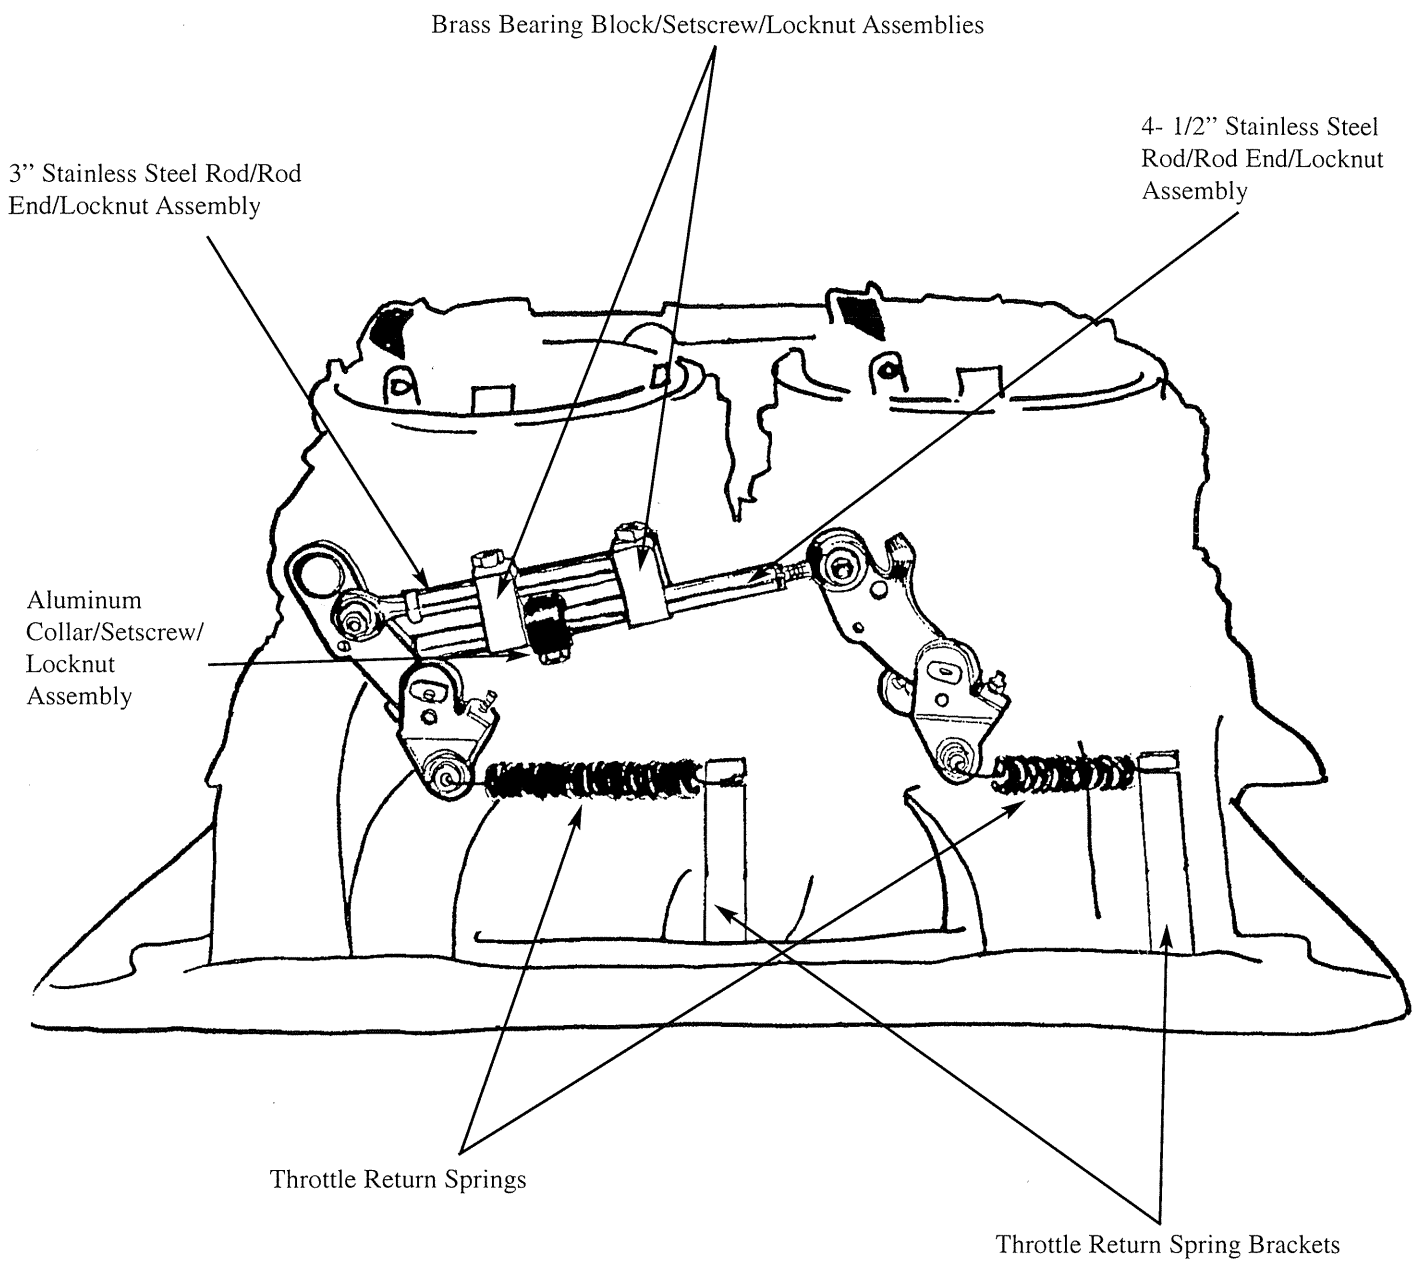

Figure 1
1. This kit contains all the necessary parts to operate Edelbrock carburetors in a progressive or 1:1 type operation. Figure 1 illustrates typical progressive type installation in which the rear carburetor is the primary carb. This simplifies linkage attachment to the vehicle's existing throttle linkage.
2. Before attaching anything to the carburetors, loosely assemble the major components of the linkage kit using Figure 1 as a guideline. Note that the longer rod will go to the rear carb with the flat facing down, and the short rod goes to the front carb with the flat facing up. The brass bearing blocks should be positioned so that the set screws will tighten against the flat of the short rod, i.e., both bearing block set screws will be up. Attach the aluminum collar to the long rod between the bearing blocks with the set screw against the flat.
5. **IMPORTANT:** Attach a return spring to both carburetors as shown in Figure 1. Use the return spring brackets supplied, bending as necessary for attachment to your engine. Generally the brackets can be attached to the intake manifold using the existing bolts. Use the longer or shorter spring on either the front or rear carburetor as required for your particular application. Check for smooth operation and positive return to idle.